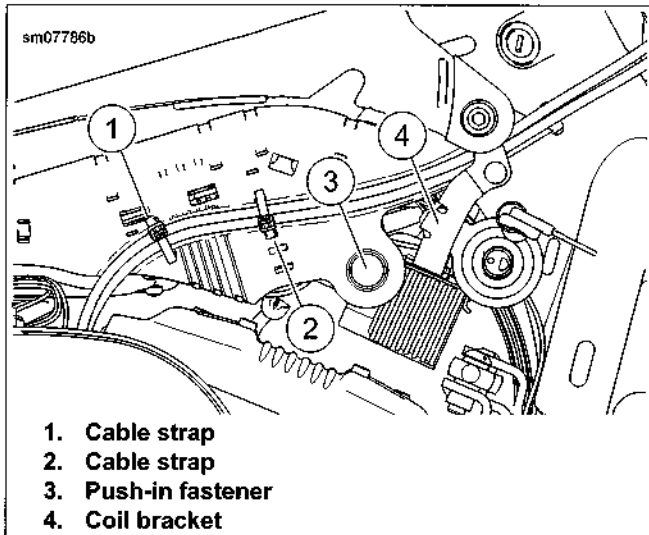

Figure 3-11. Ignition Coil
23. See Figure 3-11. Position the wiring harnesses, the right wire harness caddy and the throttle cables between the coil bracket uprights. Install **new** cable straps (1, 2).